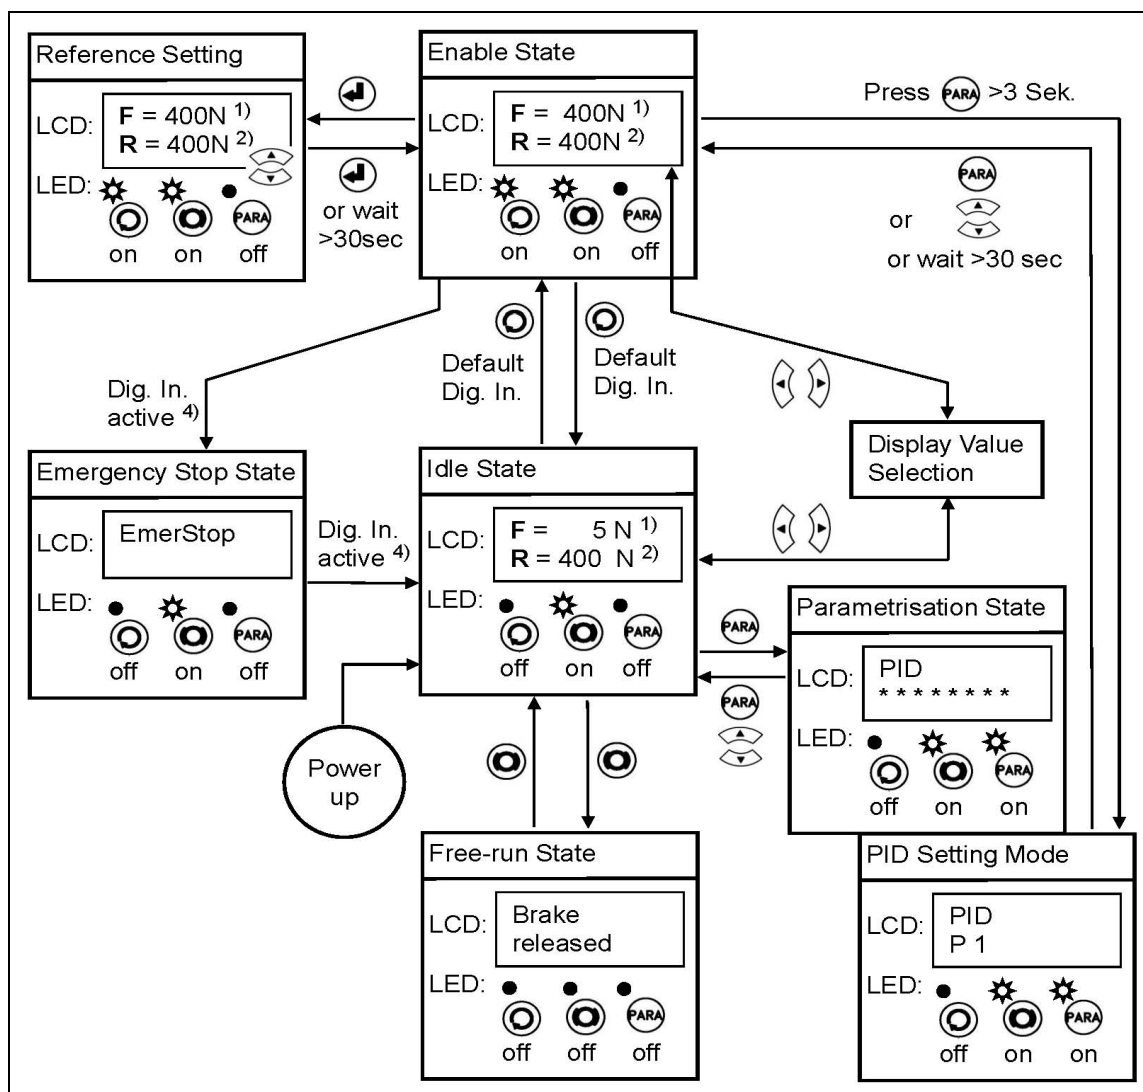

Fig. 12: Top-level view of operation control for brake applications
The user can toggle between the different states by pressing a key on the front panel. Fig. 12 and Fig. 13 provide an overview about the different Operation States and how to move from one state to the other.
2. Go to “Enable Sate” (see Fig. 12 or 13)
The Parametrisation State can only be accessed from the “Idle State”. From the “Enable State” only the Parameter Group “PID” can be reached (see Fig. 12 and Fig. 13).